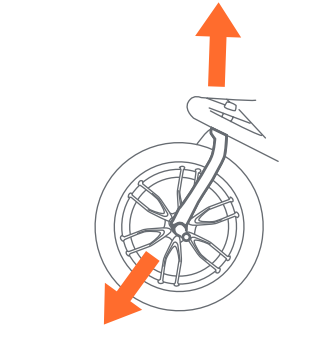

Fig. 21
- 21) • Lift front end of the stroller up and pull down on wheel to ensure its attached (Fig. 21).